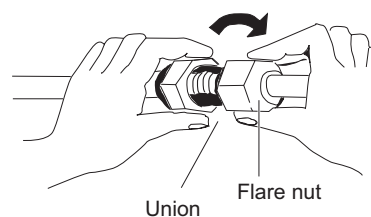

Fig. 2-281
- (3) For proper connection, align the union tube and flare tube straight with each other, then screw in the flare nut lightly at first to obtain a smooth match. (Fig. 2-281)